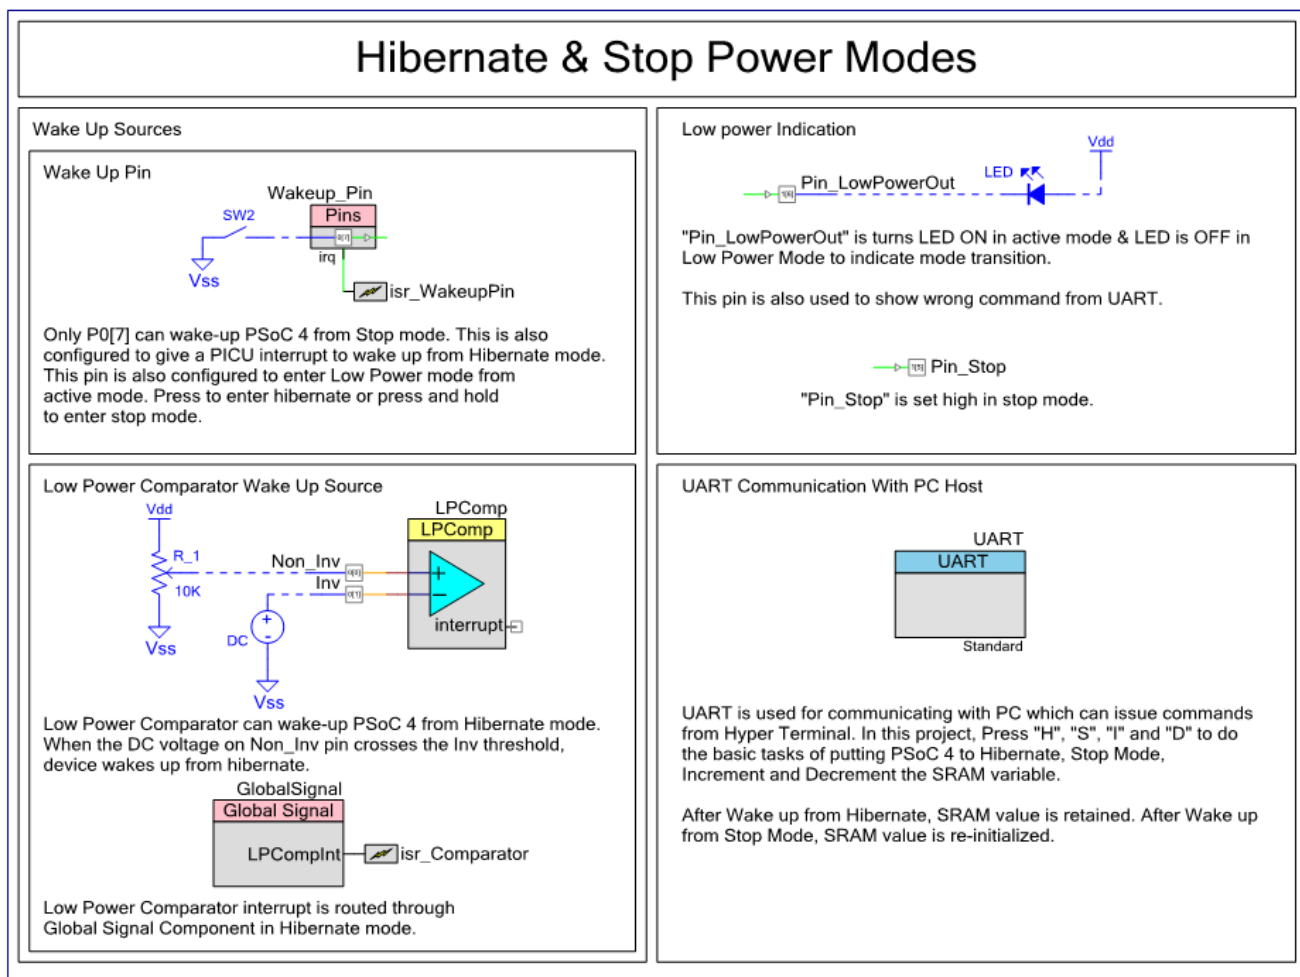

Figure 1. Top Design Schematic – Hibernate & Stop Power Modes
4. Connect a potentiometer (VR) to Non-Inverting terminal of Low Power Comparator (P0[0]) as Figure 1 shows.
The top design schematic is shown in Figure 1.